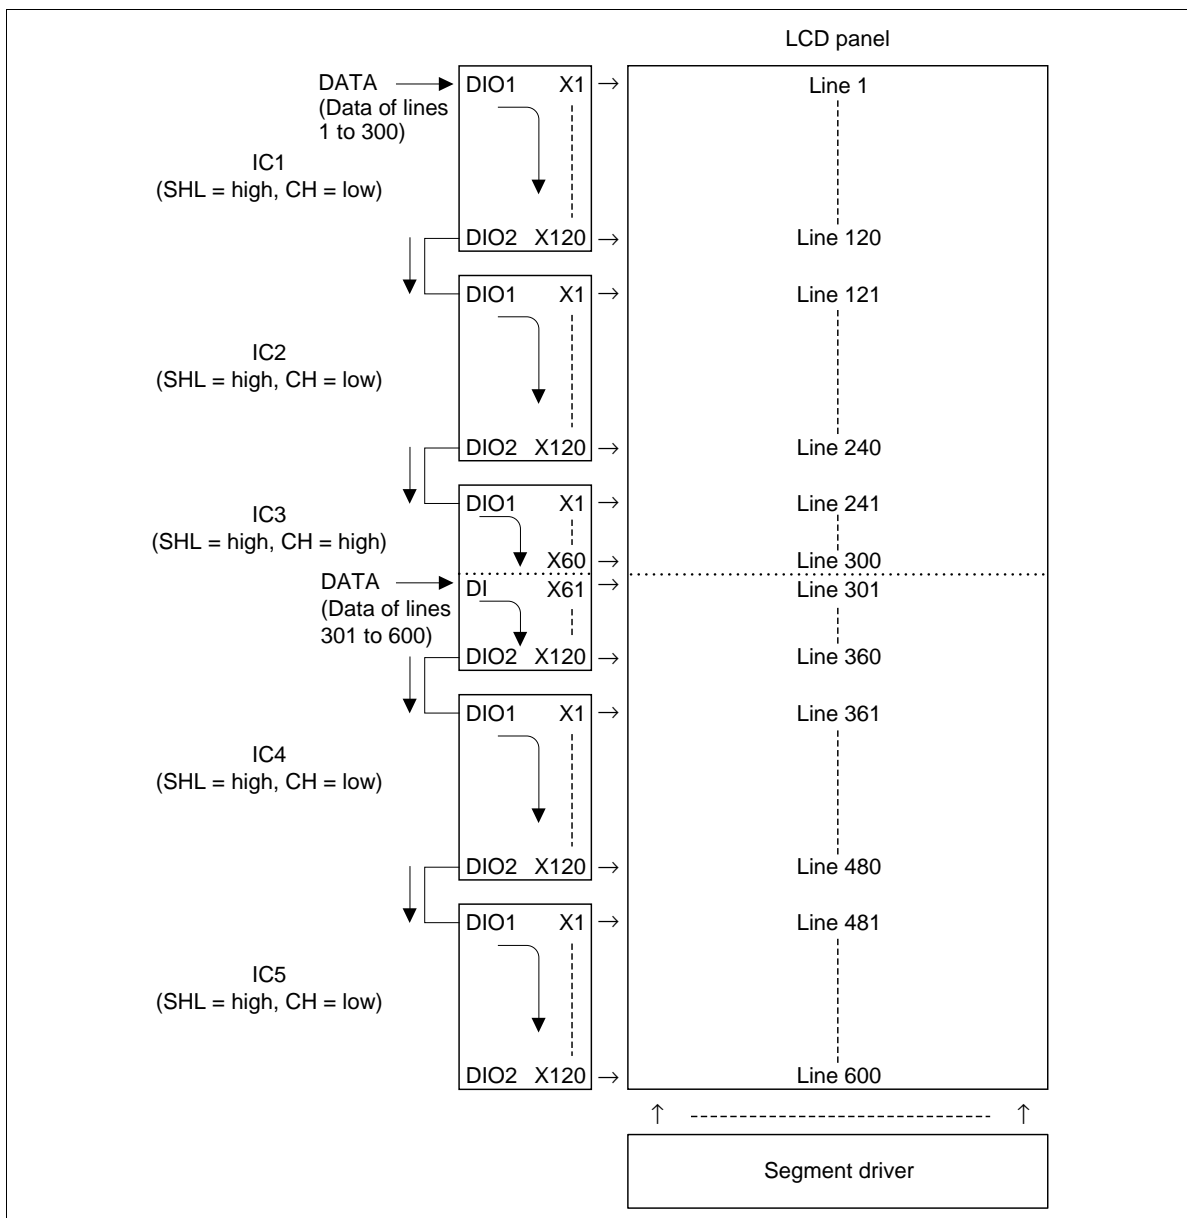
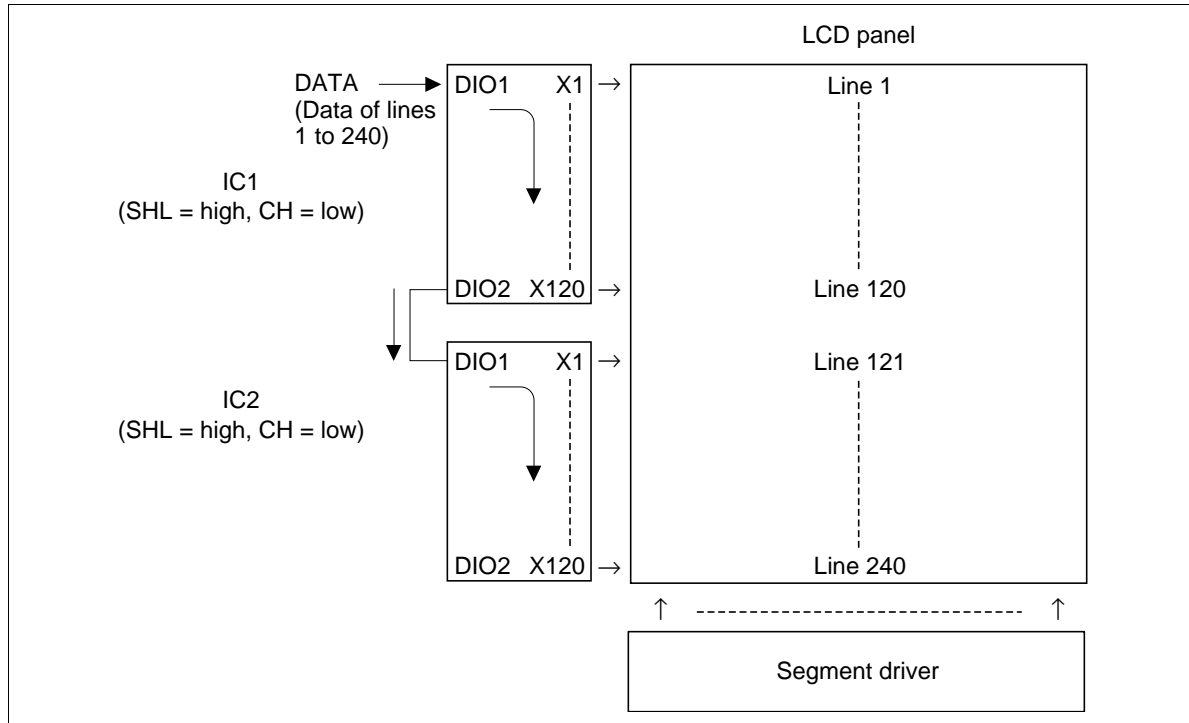

Figure 8 Dual-Screen Configuration of a 600-Line LCD Panel with a 1/300 Duty Cycle (1)
Figure 10 Single-Screen Configuration of a 240-Line LCD Panel with a 1/240 Duty Cycle (1)
Figures 8 and 9 show examples of how HD66113Ts can be configured to drive a 600-line LCD panel with a 1/300 duty cycle. Figures 10 and 11 show examples of how HD66113Ts can be configured to drive a 240-line LCD panel with a 1/240 duty cycle. The HD66113T's 120 channels can be divided into two groups of 60 channels, and its data shift direction can be changed by selecting the data output mode pin (CH) and data shift pin (SHL), respectively.